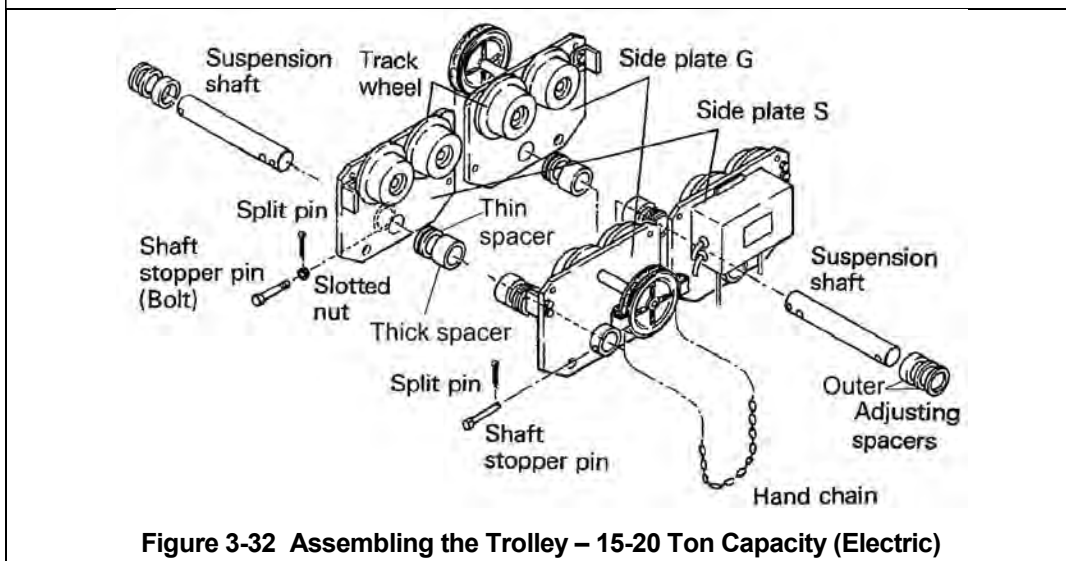

Figure 3-32 Assembling the Trolley – 15-20 Ton Capacity (Electric)
Refer to **Figure 3-32** for 15-20 Ton coupled with (N)ER/(N)ER2 hoist